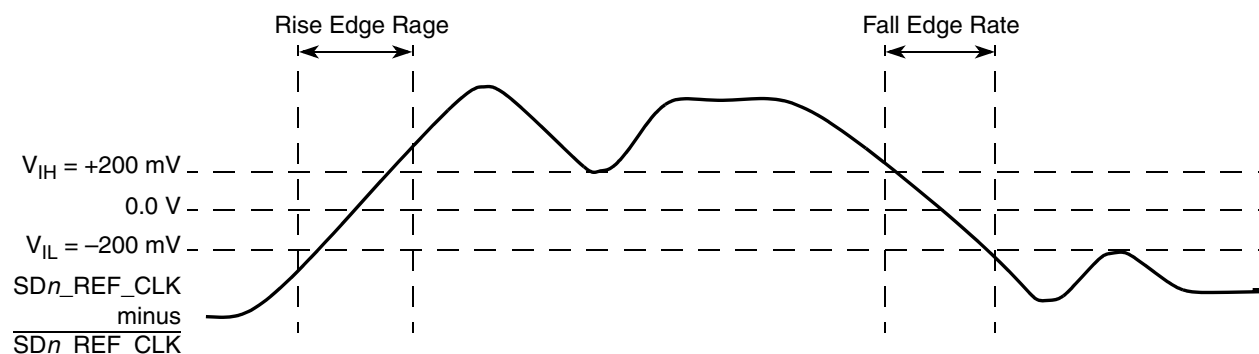

Figure 53. Differential Measurement Points for Rise and Fall Time
- Measured from –200 mV to +200 mV on the differential waveform (derived from SDn_REF_CLK minus SDn_REF_CLK). The signal must be monotonic through the measurement region for rise and fall time. The 400 mV measurement window is centered on the differential zero crossing. See Figure 53.